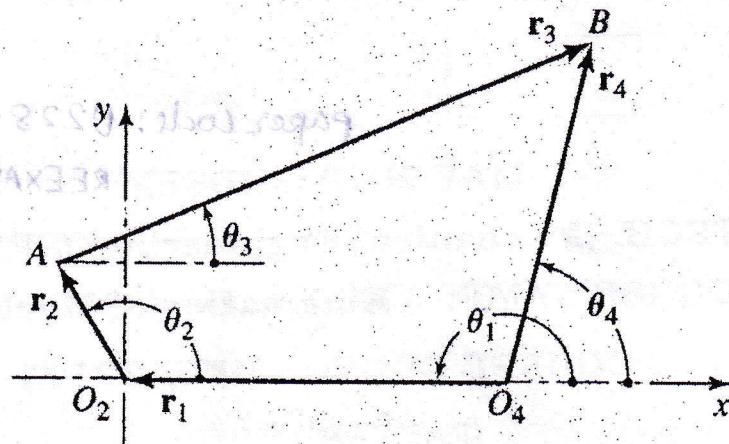

Figure 2
b) Determine angular velocities of link 3 and 4 using complex algebra method for figure 2.